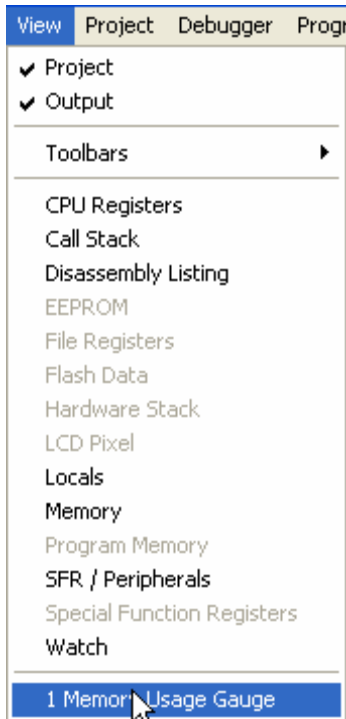

Figure 29: Memory Usage
5. How many bytes of Flash memory are required for the provided program? How many bytes of data memory (SRAM) are required for the program? Recall that you may find these numbers when you build the program. See Figure 29.